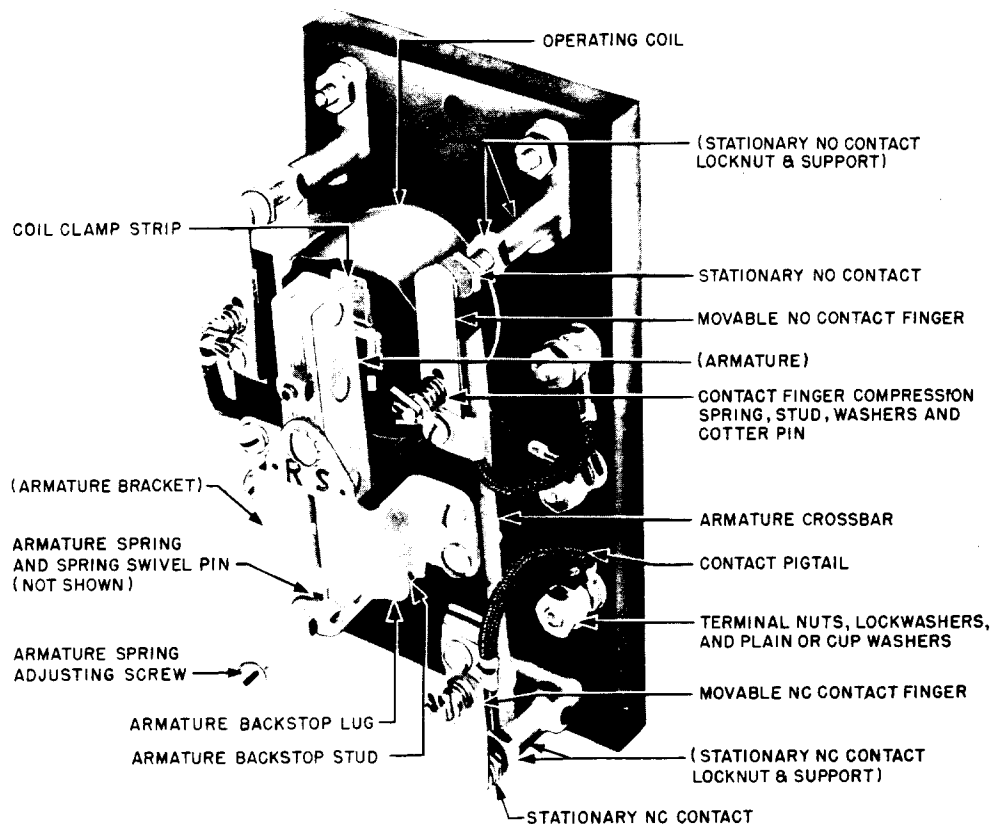
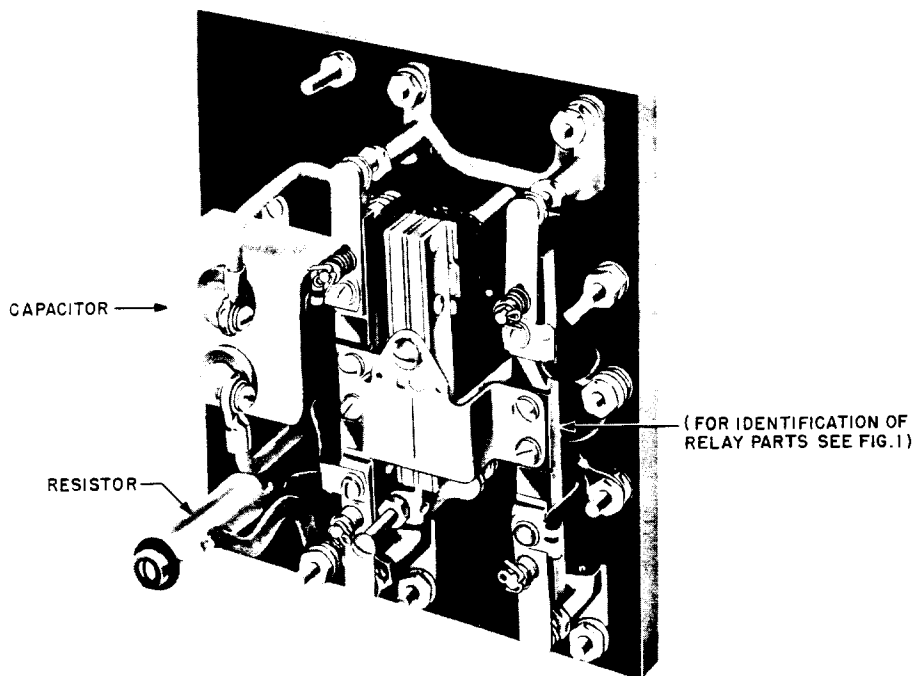

Fig. 1 - KS-15517 Relay (L2 shown)
Fig. 2 - KS-15726 Relay (L3 shown)
2. To revise Fig. 1 and to add Fig. 2.